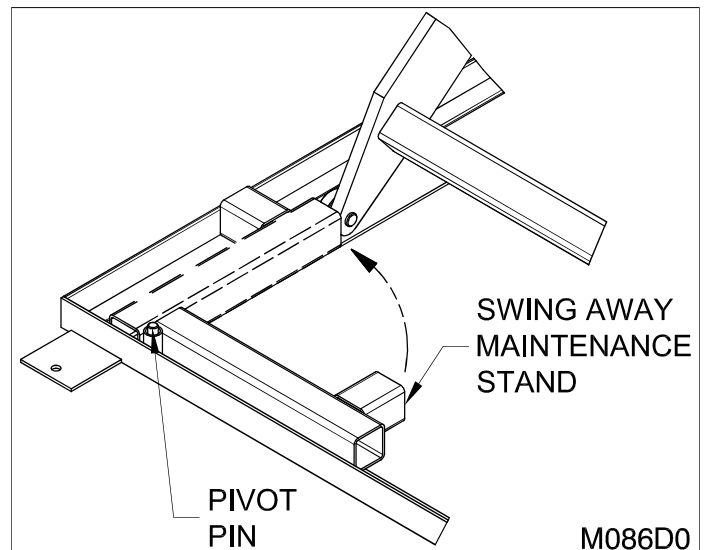

Figure 10: How to Support the Dock Lift for Maintenance
NEVER GO BENEATH THE DOCK LIFT FOR ANY REASON UNLESS THE PLATFORM AND HINGED BRIDGE(S) ARE PROPERLY SUPPORTED (See “Figure 10: How to Support the Dock Lift for Maintenance” on page 15) AND THE POWER IS DISCONNECTED, PROPERLY TAGGED AND LOCKED OUT. IT IS THE RESPONSIBILITY OF THE OWNER TO ENSURE THAT NO LOAD OR TRAFFIC IS PLACED ON THE PLATFORM WHILE THE MAINTENANCE STAND IS ENGAGED. THE CONSTRUCTION OF THE MAINTENANCE STAND IS INTENDED TO SUPPORT THE WEIGHT OF THE UNLOADED DOCK LIFT ONLY.
NEVER GO BENEATH THE DOCK LIFT FOR ANY REASON UNLESS THE PLATFORM AND HINGED BRIDGE(S) ARE PROPERLY SUPPORTED (SEE “Figure 10: How to Support the Dock Lift for Maintenance” on page 15) AND THE POWER IS DISCONNECTED, PROPERLY TAGGED AND LOCKED OUT. IT IS THE RESPONSIBILITY OF THE OWNER TO ENSURE THAT NO LOAD OR TRAFFIC IS PLACED ON THE PLATFORM WHILE THE MAINTENANCE STAND IS ENGAGED. THE CONSTRUCTION OF THE MAINTENANCE STAND IS INTENDED TO SUPPORT THE WEIGHT OF THE UNLOADED DOCK LIFT ONLY.
2. At the rolling end of the dock lift, the swing away maintenance stand pivots on a pin. Swing the maintenance stand as far around as possible into the path of the rollers. (See “Figure 10: How to Support the Dock Lift for Maintenance” on page 15)